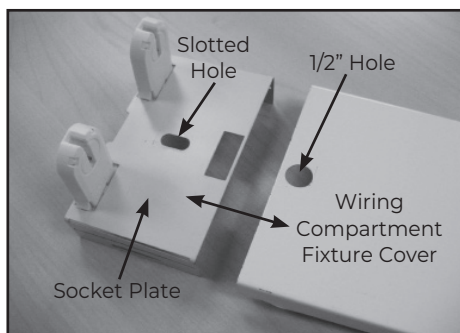

Figure 6: Align the slotted hole on the left-side Socket Plate to the 1/2" hole on the Wiring Compartment Fixture Cover.
12. Install the two (2) new Wiring Compartment Fixture Covers, Part Number 14080. Installation of each Fixture Cover requires two (2) 1/4 Turn Retainer Clips. At each end of the Fixture Cover there is a 1/2" (12.7mm) round hole. Start at either end of the fixture housing, place the 1/2" hole on the Fixture Cover over the slotted hole on the end socket plate, insert one (1) 1/4 Turn Retainer Clip through the Fixture Cover and socket plate holes, then rotate the Retainer Clip one quarter turn to attach the Fixture Cover. See Figures 6 and 6a. Follow the same procedure on the opposite end of the Fixture Cover.